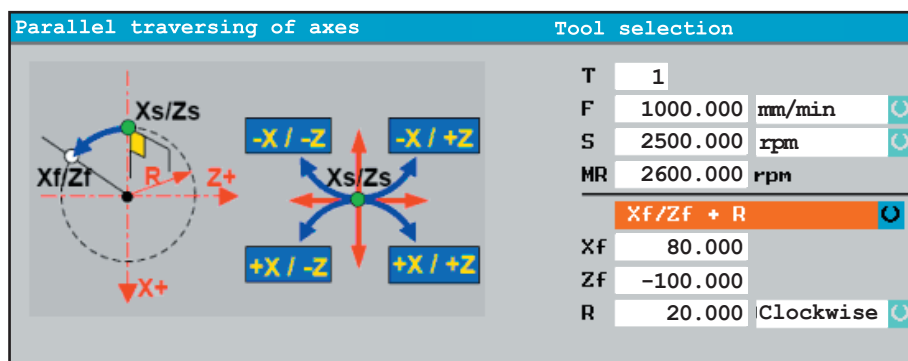

Figure 4-5. “Radius turning” mode screen
- **Fill in heading** data, according to item 4.1
- **Fill in** the required **fields**, according to selected radius information option, by pressing “**INPUT**” key to register data in the respective fields (see details on items 4.4.1, 4.4.2 and 4.4.3)
- **Move** axes through **JOYSTICK** located at electronic apron, reminding this positioning will indicate traversing direction (see figure 4-5)